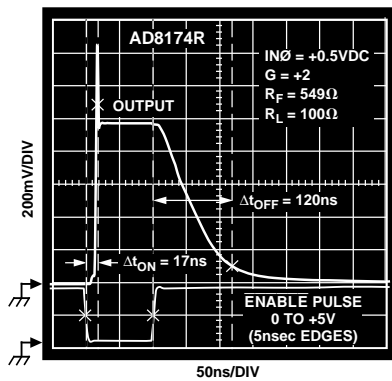

Figure 5. Enable and Disable Switching Characteristics
²AD8174 only. Shutdown (SD) pin is grounded. ENABLE pin is driven with 0 V to +5 V pulse (5 ns rise and fall times). State of A0 and A1 logic inputs determines which channel is activated (i.e., if A0 = Logic 0 and A1 = Logic 1, then IN2 input is selected). Set IN0 (or IN2) = +0.5 V dc, IN1 (or IN3) = -0.5 V dc, and measure transition time from 50% of ENABLE pulse (+2.5 V) to 90% of the total output voltage change. In Figure 5, Δt_{OFF} is the disable time, Δt_{ON} is the enable time.